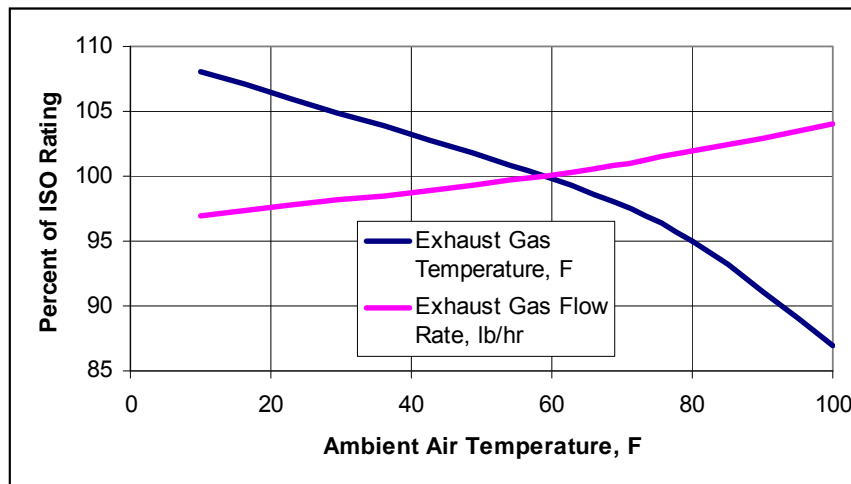

Figure 2-3 An Example of the Effect of Ambient Air Temperature on the Flow Rate and Temperature of Exhaust Gases
- **Figure 2-3** shows the effect of air inlet **temperature** on gas turbine **exhaust gas flow rate and temperature**